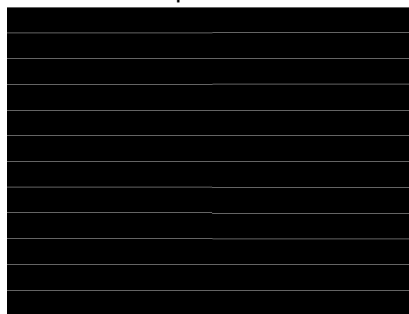

Figure 3-2. Example of Horizontal Lines Test Pattern
7. The colors for the horizontal lines pattern are specified using both the foreground and background colors. The foreground color is used for the horizontal lines, and the background color is used for the space between the lines. As noted in Table 3-3, the user specifies the foreground line width, as well as the background line width. The user must determine the line spacing for each resolution display. For example, if the foreground line width = 1, and the background line width = 9, there is a single pixel horizontal line on every tenth line. An example of a horizontal lines pattern is shown in Figure 3-2.